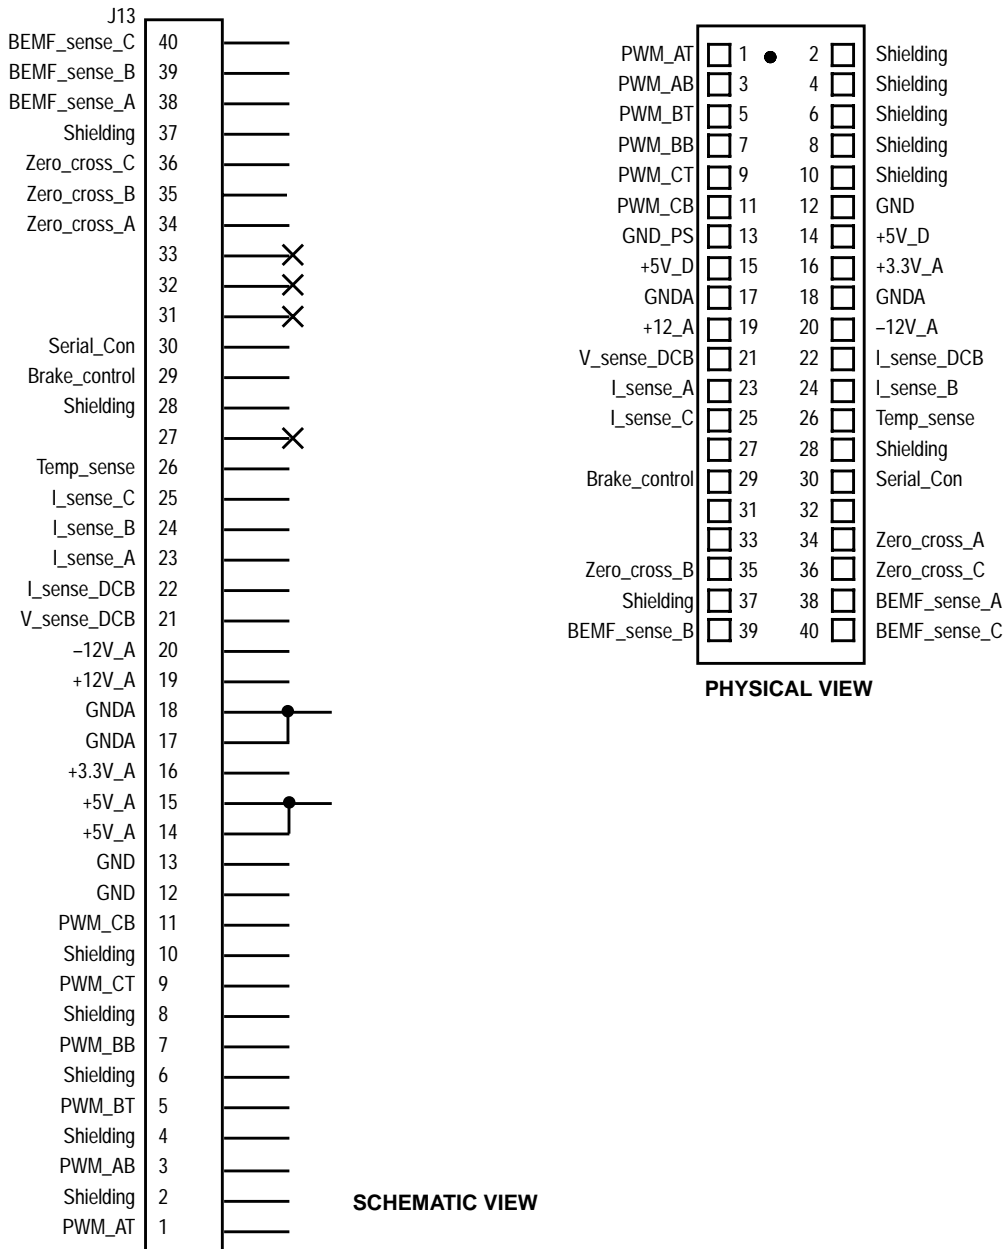

Figure 3-1. 40-Pin Ribbon Connector J13
- Pin assignments are shown in Figure 3-1. 40-Pin Ribbon Connector J13, and a pin-by-pin description is contained in 3.3.1 40-Pin Ribbon Connector J13.
Input connections are made via 40-pin ribbon cable connector J13. Pin assignments for the input connector are shown in **Figure 3-1. 40-Pin Ribbon Connector J13**. Power connections to the motor are made with fast-on connectors J16, J17, and J18. They are located along the back edge of the board, and are labeled Phase A, Phase B, and Phase C. Power requirements are met with a 12-volt power supply that has a 10- to 16-volt tolerance. Fast-on connectors J19 and J20 are used for the power supply. J19 is labeled +12V and is located on the back edge of the board. J20 is labeled 0V and is located along the front edge. Current measuring circuitry is set up for 50 amps full scale. Both bus and phase leg currents are measured. A cycle by cycle overcurrent trip point is set at 46 amps.
- Pin assignments for input connector J13 are shown in **Figure 3-1**. Signal descriptions for each of these connectors are identified in **Table 3-1**.
40-pin ribbon cable connector J13 is located on the right side of the board. Pin assignments are shown in Figure 3-1. In this figure, a schematic representation appears on the left, and a physical layout of the connector appears on the right. The physical view assumes that the board is oriented such that its title is read from left to right. Signal descriptions are listed in Table 3-1.